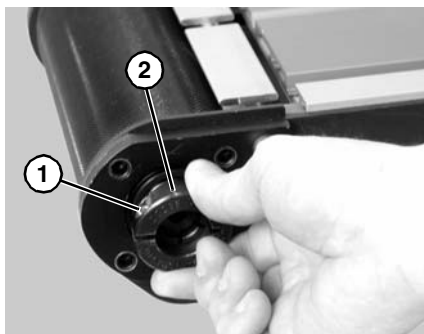
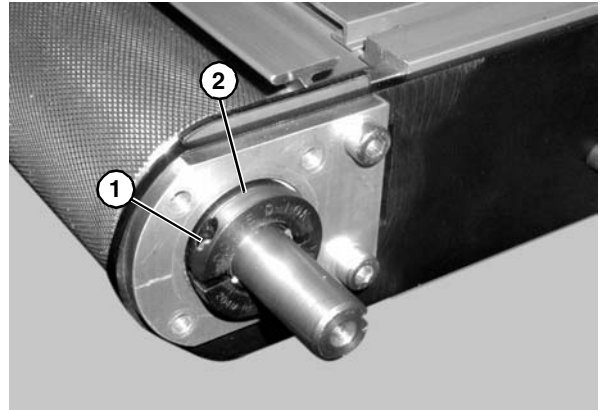

Figure 69
Figure 70
4. Loosen the bearing collar set screw (Figure 69, item 1) and remove bearing collar (Figure 69, item 2). Repeat on drive shaft side of pulley (Figure 70, item 1 and 2).